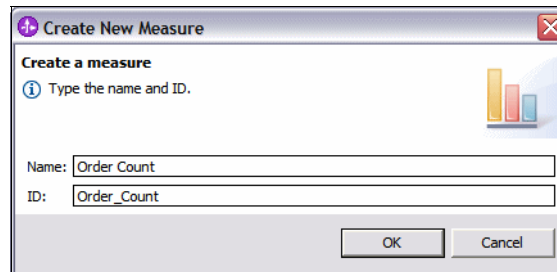

Figure 12-28 Measure name
- ▶ Name the measure Order Count and click *OK* (Figure 12-28).